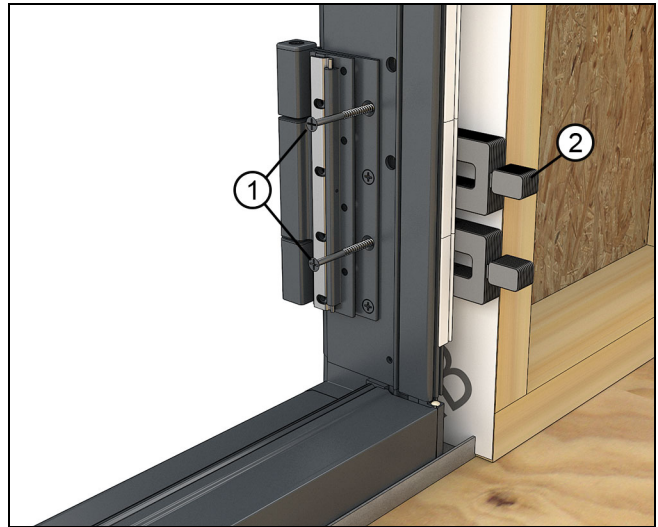

Figure 49
14. On hinged doors, put two installation screws through each hinge. Make sure to maintain a straight jamb (not bowed). Shim behind the hinge. See Figure 49.